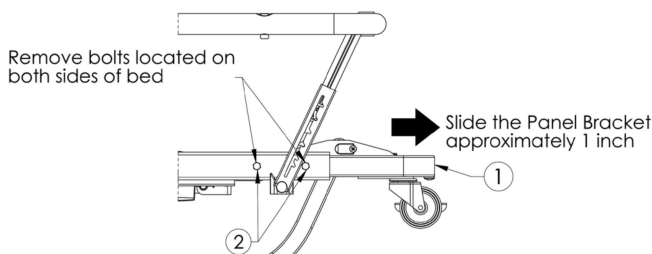

Figure 13
2. Locate the bolts on either side of the bed (Figure 13). Remove bolts from both sides of the bed (4 bolts).
3. Locate the battery patch cable (Detail A). Ensure that there is enough loose cable to allow you to move the panel mount bracket out approximately 1-inch (Figure 13).